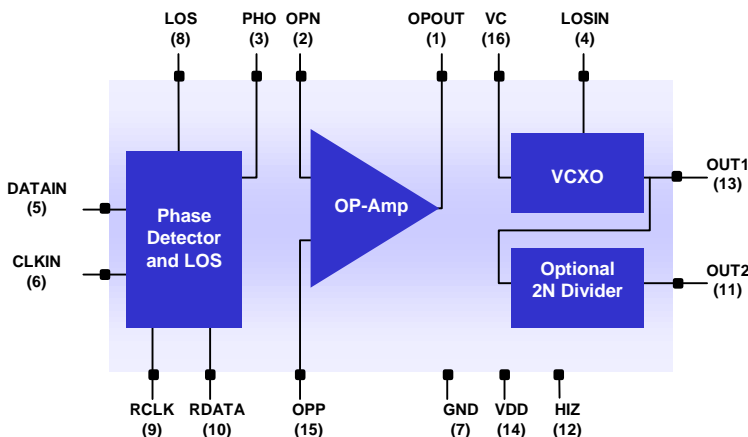
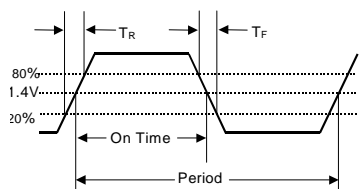

Figure 1, CD-700 block diagram
Figure 2. Output Waveform
2. Figure 1 defines these parameters. Figure 2 illustrates the equivalent five gate TTL load and operating conditions under which these parameters are tested and specified. Loads greater than 15 pF will adversely effect rise/fall time as well as symmetry.